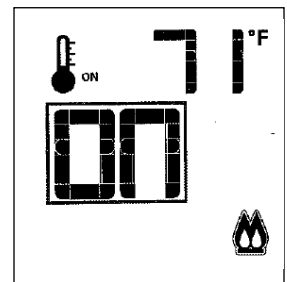

Figure 73. Split Flame.
- The Front and Rear Burners are activated by using the Mode Key to index to the Split Flow icon. Press the Up Arrow Key to turn it ON. Fig. 73. Press the Down Arrow Key to turn it OFF. A single “beep” will confirm reception of the command.